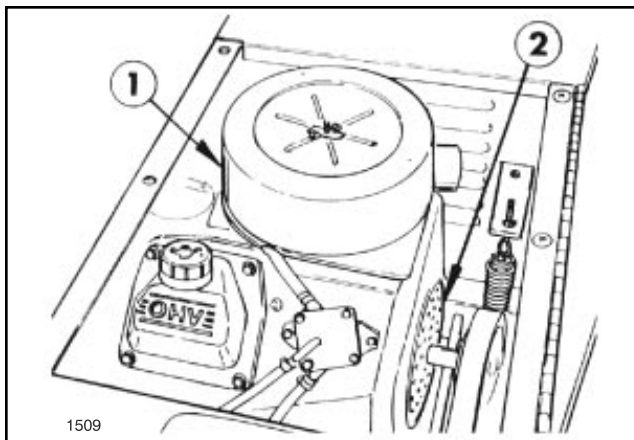

FIG. 3
1. Check the Air Cleaner for any loose or damaged components. See FIG. 3. **NOTE:** Operating the engine with loose or damaged Air Cleaner components could allow unfiltered air into the engine causing premature wear and failure.